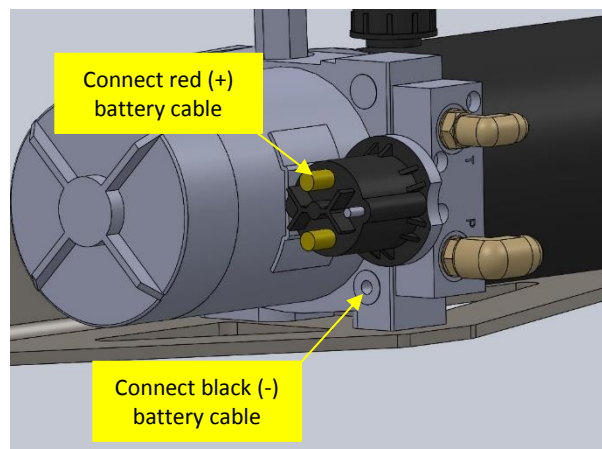

Figure 6
6. Route the red and black battery cables from the vehicle battery along the frame up to the **Hydra Flaker** avoiding any sharp edges and hot surfaces and secure into place. **To prevent accidental injury, do not connect the cables to the battery!** Connect the red cable (+) (**ITEM 11**) to the unoccupied copper terminal (upper terminal) on the power unit solenoid and the black cable (-) (**ITEM 12**) to the lower hole on the power unit valve block using the 5/16" X 3/4" bolt (**ITEM 13**). **Figure 6**